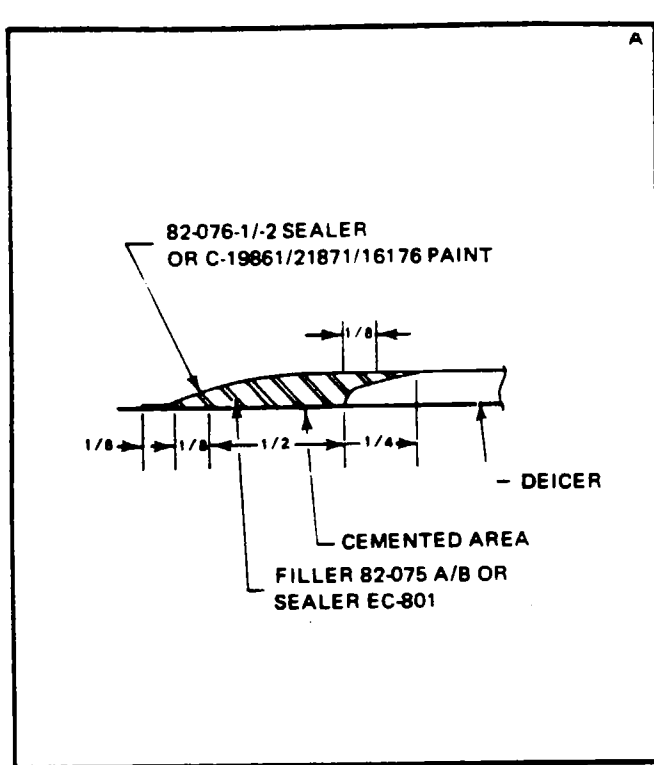

Figure 30-20. Sealer Application (Boot)
5. Locate masking tape approximately - .125 inch beyond cemented area around deicer to allow application of filler directly to metal. Apply one even brush coat of 82-075A/B filler (or EC-801 sealer) over .125 inch of bare metal, cemented area and about .125 of an inch of deicer. (See Figure 30-20.)
7. Apply new masking tape approximately .125 of an inch beyond filler to allow application of sealer directly to metal. Apply one even brush coat of 82-076-1/2 sealer (or C19861/C-16176 paint) over .125 of an inch of bare metal, filled area and .250 of an inch of deicer. (See Figure 30-20.)